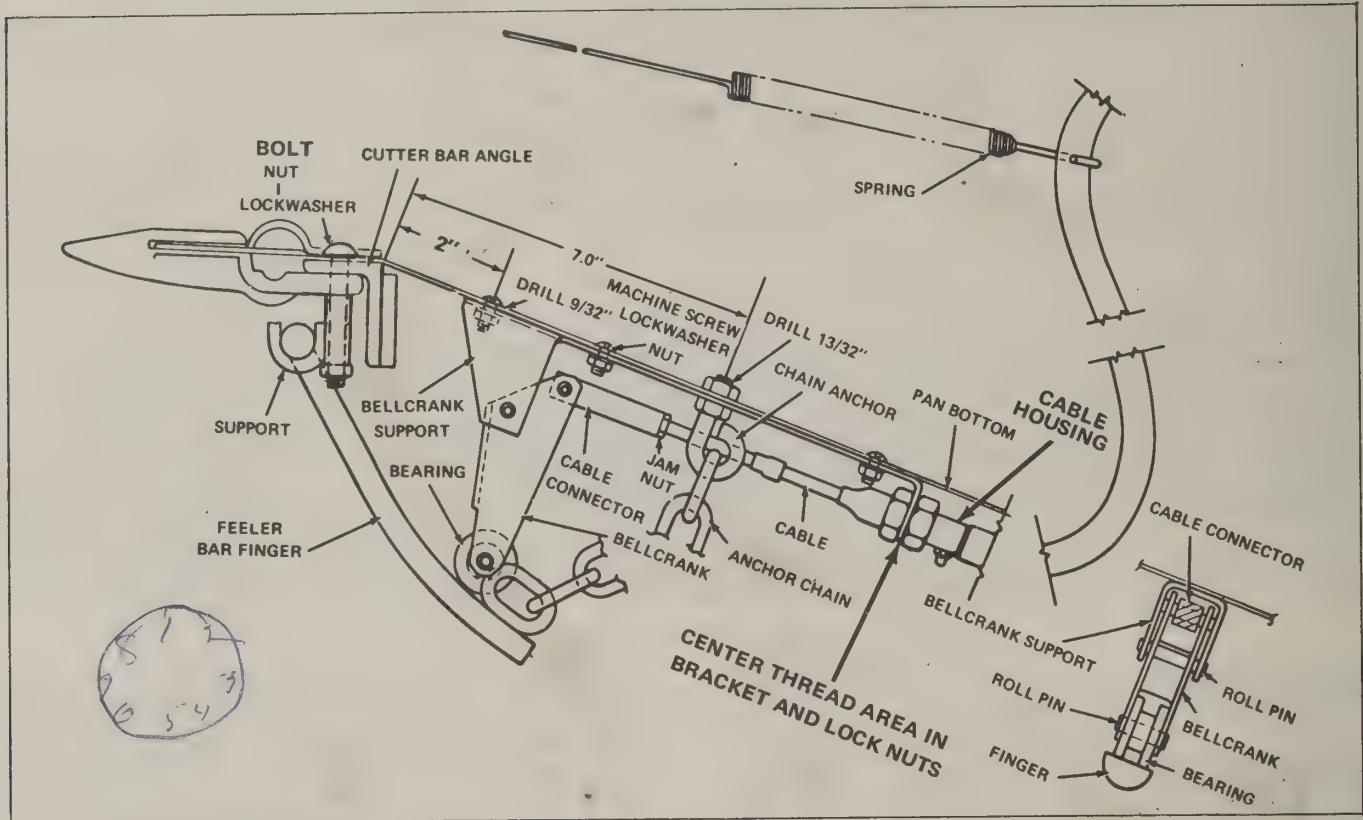

FIG. 18
Place the complete assembly on bottom of the pan bottom, as shown in Fig. 17, make sure the roller is in line with the finger and the complete assembly parallel with the pan bottom support. Mark the front attaching hole of the bellcrank support 2" to the rear of the cutter bar angle (Fig. 18) and drill the (5) $9/32$ " holes thru the pan bottom to attach the bellcrank support to the pan bottom.
On each end of the pan bottom 7 inches to the rear of the cutter bar and outside the outer finger, drill a $13/32$ " hole for the chain anchor on each end of the feeler bar. See Fig. 18.